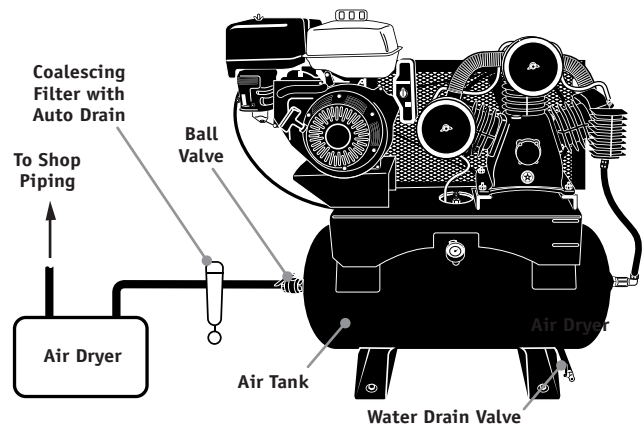

Figure 2: Basic Piping Diagram
4. Install appropriate ASME code safety valves and make sure piping system is equipped with adequate condensate drains. See figure 2.